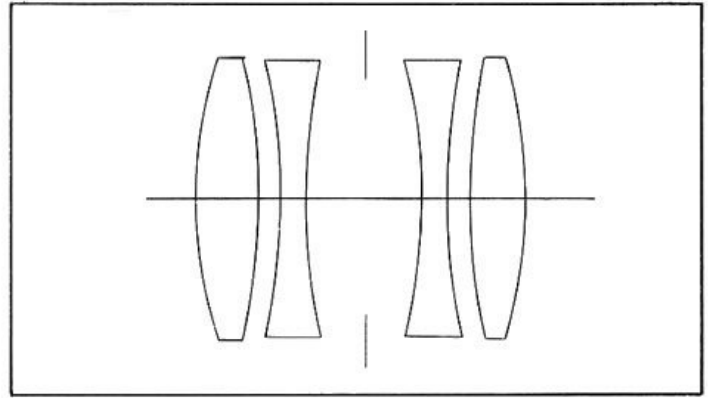

Fig. 1
- 1) Using Figure 1, we find that the diagonal of the original is 1,400mm (1.4m).